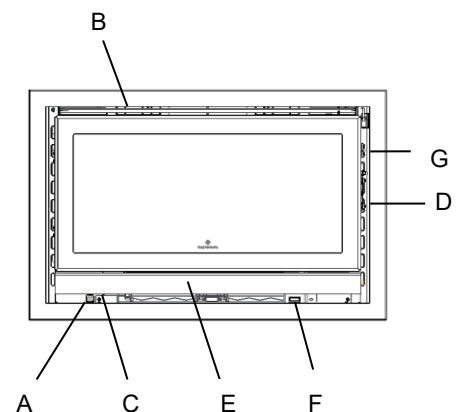

Figure 19 - Component schematic
1. Open the "Primary Air" combustion air control (C-Figure 19).
2. Open the "Fume hood" hot air outlet knob (G-Figure 19).
4. When you close the door, you must partially close the "Smoke flap" (G-Figure 19) hot air outlet and close the "Primary Air" (C-Figure 19) combustion air control.